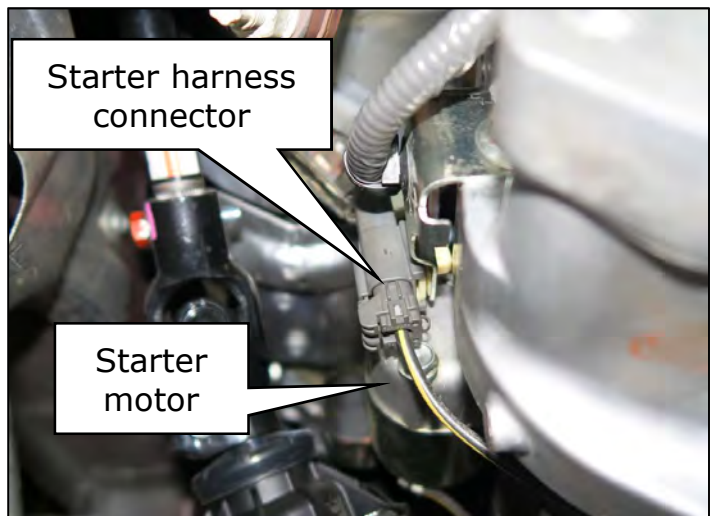

Figure 92
91. Connect the starter harness connector. (Figure 92)